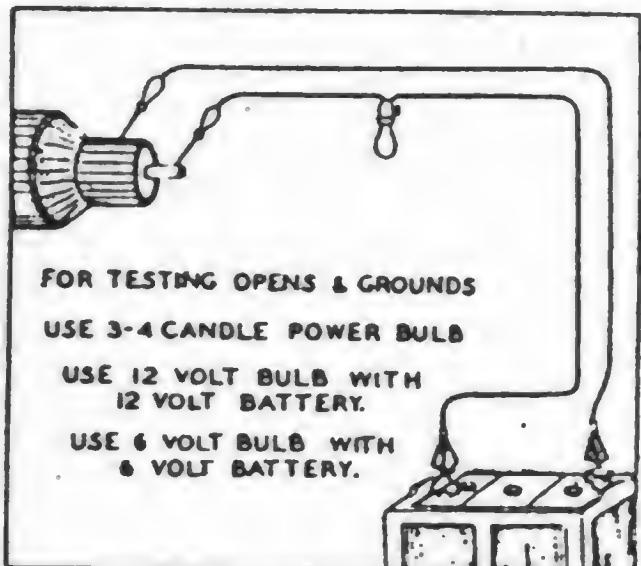

FIG. 42 TEST LAMP
(1) *General.*—Most of the following testing instructions may be used without disassembling the generator. In each instance where an exciter armature winding or an alternator field winding tests open-circuited, short-circuited or grounded, the practical repair is to install a new rotor assembly. If a stator winding tests open-circuited, short-circuited or grounded, the practical repair is to install a new stator winding assembly unless the trouble is in the leads outside the winding proper. The rotor windings and the stator windings can be successfully repaired only by a competent rewinding shop. The tests require the use of a 6-volt battery, a 3 or 4 candle-power, 6-volt lamp and socket, two test prods and the necessary connecting wire as shown in (Fig. 42). Certain tests require a d-c voltmeter. Before starting the tests, remove the cover from the exciter, lift all brushes high in their holders and set the ends of the springs against them so as to hold them high. Then disconnect the four stator winding cables from posts of the a-c terminal block and the large exciter cable from the right hand terminal of the solenoid starting switch. See wiring diagram. Tag the cables so as to avoid error in replacing them. In using test prods, make sure that good electrical connection is made at points of contact.